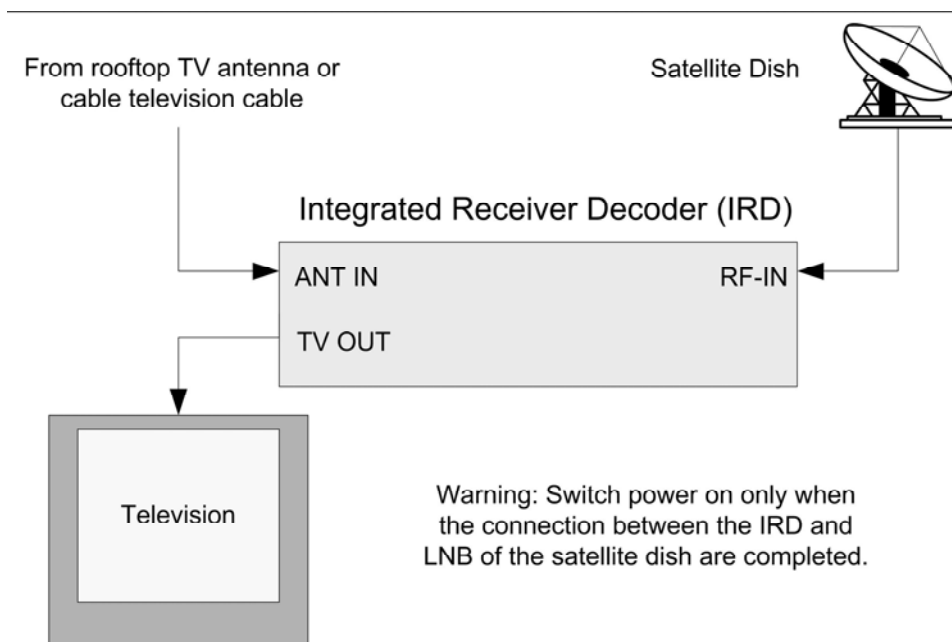
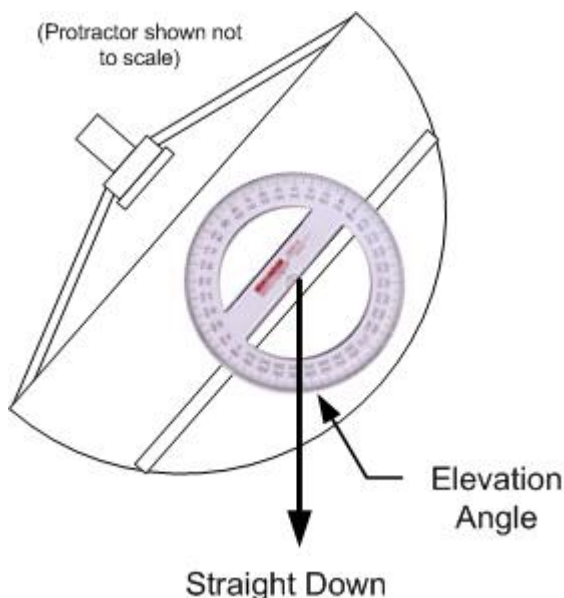
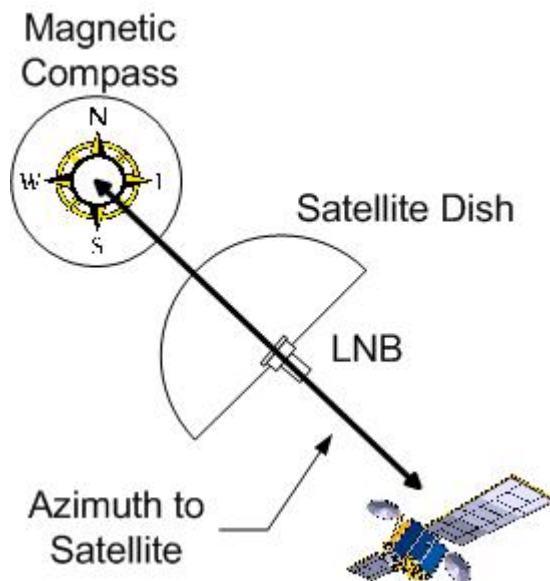

Figure 4-5 IRD Connections
Figure 4-6 Look angle adjustment
Figure 4-7 Azimuth setting
- (1) Two tools are required to survey your site location, a compass, and Angle Locator. If you can't locate an Angle gauge/locator see figure 4-6, "Use of Protractor".
- (2) Go outside to the antenna site and hold your compass flat in your hand. Rotate the compass to get the "N" (north) and the pointer to align, see figure 4-6.
- (3) Locate the tick mark on the compass that corresponds to the azimuth number for your location. Satellites are located in space above the earth's equator so you generally must aim toward the equator.
- (4) Point or aim in the direction of your azimuth setting, see figure 4-5 and 4-6.
- (5) Raise your arm to approximately the elevation angle, use angle gauge for reference. This is the direction and elevation of your antenna. Sight down your arm to ensure a clear path. Trees or buildings should not block your antenna; otherwise your site may not be a suitable location.
- (3) Connections from the 9234 receiver to the TV/Monitor can be made using standard RCA audio and video cables or RG-59 for RF connection (see figure 4-5). Switch the LNB power located on the back of the receiver to the on position (9234). For the 9223 switch it to the 19 (left) for C-band users and to the 13/19 for Ku-band users.
- (4) At this point you should have made all electrical and mechanical connections and know your azimuth and elevation settings. On most satellite antenna mounts there is a scale that will read the elevation of the antenna, set your site elevation using this scale. It is critical that the antenna be mounted perpendicular to the earth for this scale to be accurate enough to set the antenna on the correct elevation. If not, your azimuth and elevation adjustments will be off by the amount of error that's induced by the installation of the mount. Just to give you some kind of idea of the accuracy required, a one-inch movement of the lip of a 5-foot antenna results in a full degree misalignment in the antenna's direction. An error of that magnitude will certainly make the difference between an excellent signal and no reception at all. It is critical that the polar mount be plumb for you to transfer your azimuth and elevation calculations accurately to the antenna. Satellites are spaced at only two degrees apart; therefore, it is very easy to be on the wrong satellite. If you do not have an elevation scale on the antenna mount, you can buy an angle meter/gauge at hardware stores or lumber yards. If you cannot locate an angle gauge, you can make your own see figure 4-6 using a protractor.
- (1) If you haven't already done so, locate your satellite receiver and TV close to the antenna and connect as shown in figure 4-5.
- (2) If you have a Spectrum Analyzer, connect it to the antenna. See Table 4-2 for details.
- (3) Switch the TV/Monitor and Receiver power to the on position and tune the TV to view the receiver (IRD) menu screen.
- (4) Perform decoder setup instructions found later in this chapter. Information for all regions served by SATNET and DTS can be found at the end of this chapter. It is best to begin with the IRD set at the Installer Menu for the 9223, or the Receiver Setup menu for the 9234. The green signal LED on the front of the IRD and the Signal Status menu are the first and most reliable indicators of receiving the satellite signal. It is best to use the signal status menu window for signal verification during the antenna tuning process.
- (5) Select the Installer Menu on the 9223 or the Receiver Setup Menu on the 9234.
- (6) Set the elevation on your antenna using the scale located on the back of the antenna. If your antenna doesn't have a scale see figure 4-6. Note: when adjusting the elevation angle of an offset dish, subtract the manufacture's offset angle from the elevation angle provided for reference. Most offset dish manufacturers supply a gauge on the antenna mount that automatically makes this correction for you.
- (7) If necessary, loosen the nuts on the antenna support so that the antenna can rotate easily left and right.
- (8) Hold the compass flat in the palm of your hand away from the antenna and any large metal object.
(9) Rotate the compass so that the “N” (North) is under the dark point of the compass pointer or arrowhead, see figure 4-7. Your compass is now aligned with the north and the tick marks around the edge of the compass represents azimuth degrees.
(10) Locate the tick mark on the compass that corresponds to the azimuth number for your site location.
(11) Point the antenna in the direction of your azimuth heading, use the LNB as your pointer. Try to make this adjustment as accurately as you possibly can. It usually helps to pick an object that is several hundred feet away from your antenna that aligns with the antenna mounting pole and your azimuth heading, see figure 4-7.
(12) After making azimuth adjustments, to prevent the antenna from moving, lightly tighten those bolts down.